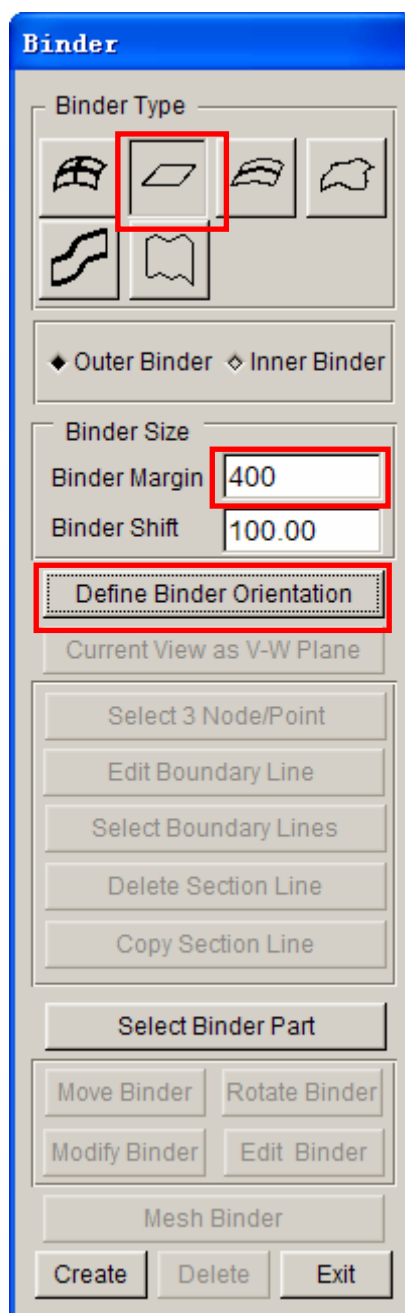

Figure 27 Binder dialog box
2. Select binder type (flat binder) from the binder dialog box, as illustrated in Figure 27.